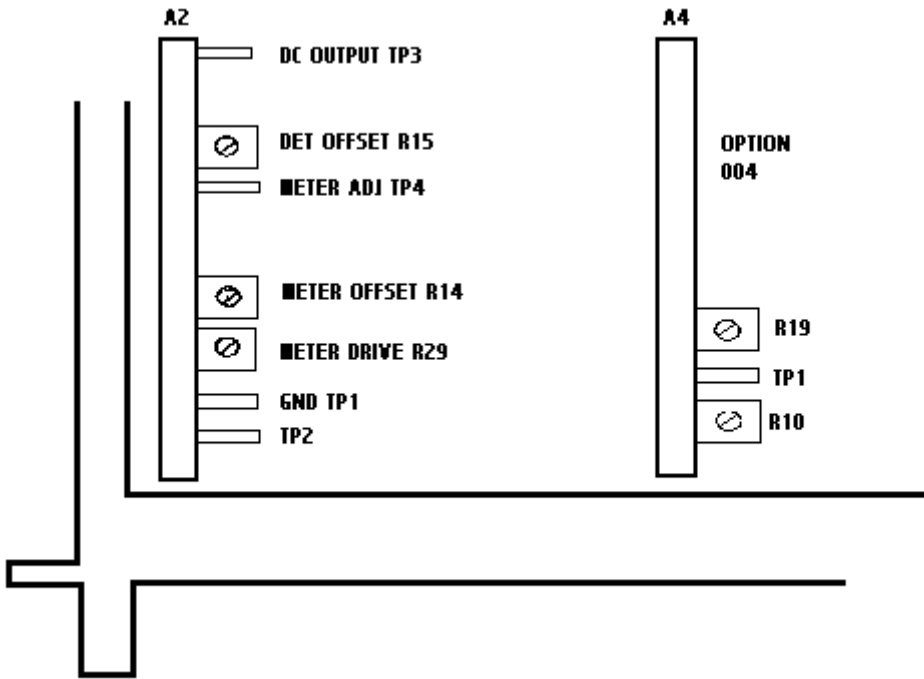
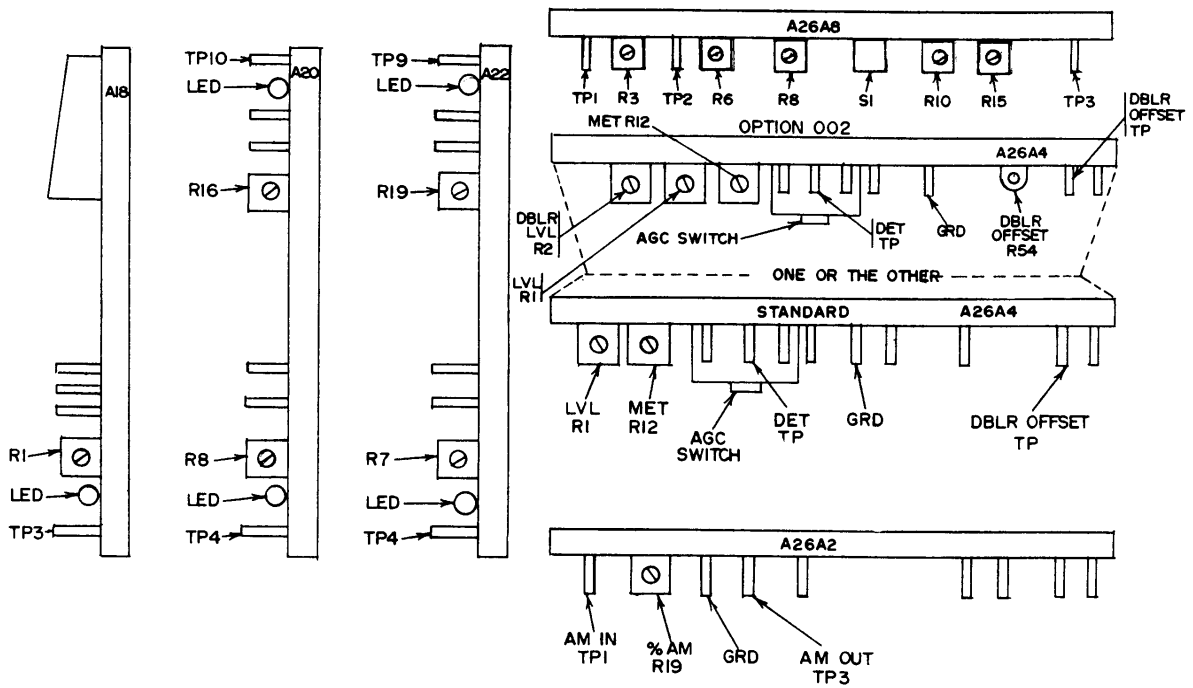
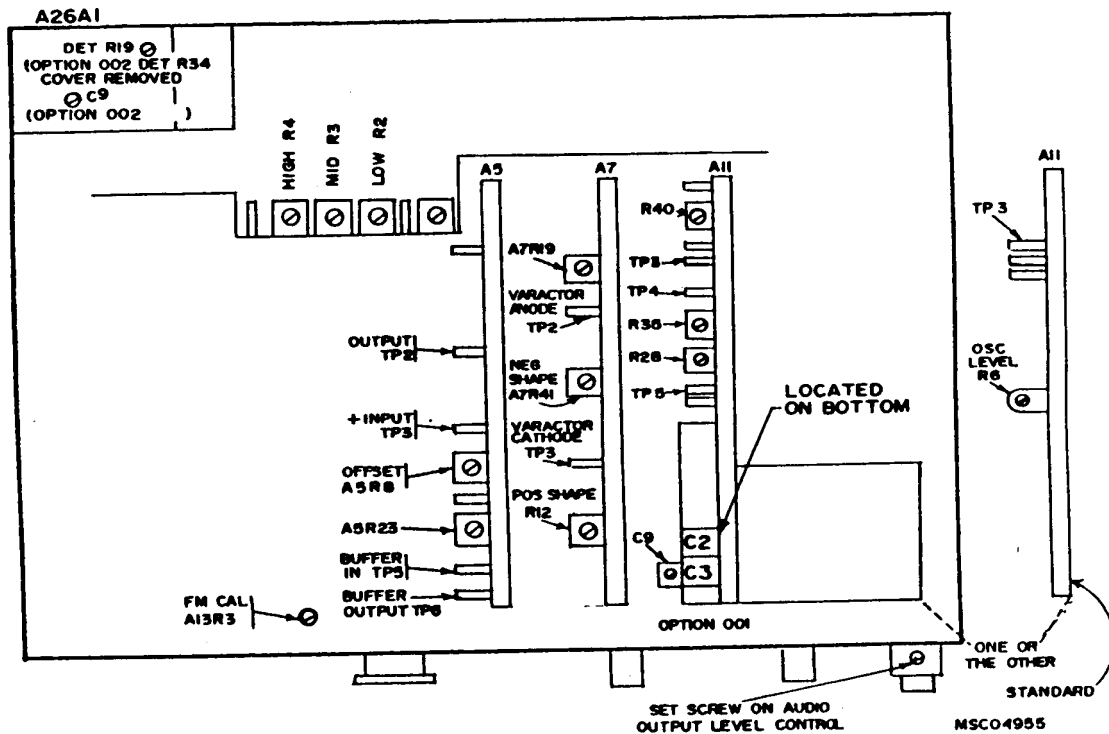

Figure 1. TEST instrument, top left hand side.
Figure 2. Test instrument - top back side.
Figure 3. TEST instrument - bottom view.
(1) Position controls as listed in (a) through (d) below:
(2) Connect multimeter **INPUT HI** to DC OUTPUT A2TP3 (fig. 1) and **INPUT LO** to GND A2TP1 (fig. 1). Adjust DET OFFSET A2R15 (fig. 1) for multimeter indication of 0.000 ±1 mV dc (R).
(3) Disconnect multimeter **INPUT HI** from DC OUTPUT A2TP3 and connect **INPUT HI** to METER ADJ A2TP4 (fig. 1).
(4) Adjust METER OFFSET A2R14 (fig. 1) for multimeter indication of 0.000 ±1 mV dc (R).
(5) Disconnect multimeter **INPUT HI** from METER ADJ A2TP4 (fig. 1) and connect **INPUT HI** to AM IN A26A2TP1 (fig. 2).
(6) Set **AM** switch to **INT** and adjust **AM** control for a multimeter indication of 0.707 V ac. Adjust **METER DRIVE A2R29** (fig. 1) for **TI** meter indication of 10 on 0 to 10 scale (R).
(7) Adjust **AM** control for **TI** meter indications listed in table 13. Multimeter will indicate as specified; if not, readjust **METER DRIVE A2R29** (fig. 1) for best in-tolerance condition.
(10) Set measuring receiver to measure **AM** with **AVG DETECTOR**.
(11) Adjust **AM** control for a measuring receiver indication of approximately 20%. Press measuring receiver **RATIO %** key.
(12) Adjust **OUTPUT LEVEL** vernier control(s) for a **TI** meter indication of **-7dB**.
(13) Adjust **DET A26A1R19** (**A26A1R34** for option 002) (fig. 3) for measuring receiver indication of 100% (R).
- (14) Set **OUTPUT LEVEL** vernier control(s) fully cw.
- (15) Measuring receiver will indicate between 99.5 and 100.5%, if not, repeat (11) through (14) above while readjusting A26A1R19 (A26A1R34 for option 002) (fig. 3) for best in-tolerance condition.
- (16) Set **AM** switch to **OFF**.
- (17) Set measuring receiver to measure RF power.
- (18) For option 002 only, set DBLR OFFSET A26A4R54 (fig. 2) to mid-range.
- (19) Adjust LVL A26A4R1 (fig. 2) for a +13.2 dBm measuring receiver indication (R).
- (20) Adjust **OUTPUT LEVEL** vernier control(s) for a +13.0 dBm measuring receiver indication. Adjust MET A26A4R12 (fig. 2) for TI meter indication of +3 dB (R).
- (21) For option 002, proceed to (22) below. For all other models, repeat a above.
- (22) Set **RANGE MHz** switch to **1024-512** and adjust **FREQUENCY TUNE** control for **FREQUENCY MHz** display indication of 800 MHz.
- (23) Adjust DBLR LVL A26A4R2 (fig. 2) for a +13.0 dBm measuring receiver indication (R).
(24) Set **RANGE MHz** switch to **64-32** and **FREQUENCY TUNE** for 50-MHz display indication. Adjust **OUTPUT LEVEL** vernier control ccw for a +3-dBm measuring receiver indication.
(25) Set **RANGE MHz** switch to **1024-512**. Adjust DBLR OFFSET A26A4R54 (fig. 2) for a +3 dBm measuring receiver indication (R).
(26) Set **RANGE MHz** switch to **64-32** and adjust **OUTPUT LEVEL** vernier control fully cw. If measuring receiver does not indicate +13.2 dBm, repeat (19) above.
(27) Repeat (20) through (26) above until measuring receiver indication at 800 MHz is within ± 2 dBm of the 50 MHz indication.
(28) Set **RANGE MHz** switch to **1024-512** and adjust **FREQUENCY TUNE** control for **FREQUENCY MHz** display indication of 700 MHz.
(29) Set **OUTPUT LEVEL** switch to **+20 dBm** and set **OUTPUT LEVEL** vernier control(s) fully cw. Adjust A26A1C9 (fig. 3) for maximum measuring receiver indication (not to exceed +17 dBm) (R).
(30) Position controls as listed in (a) through (e) below.
(35) Adjust oscilloscope controls as necessary to display detected RF output signal. Readjust A26A1C9 (fig. 3) slightly (if required) to limit ringing and eliminate oscillations as indicated on oscilloscope display.
(36) While observing oscilloscope display, slowly vary TI frequency from 512 to 1024 MHz. Readjust A26A1C9 (fig. 3) for a stable square wave indication on oscilloscope display.